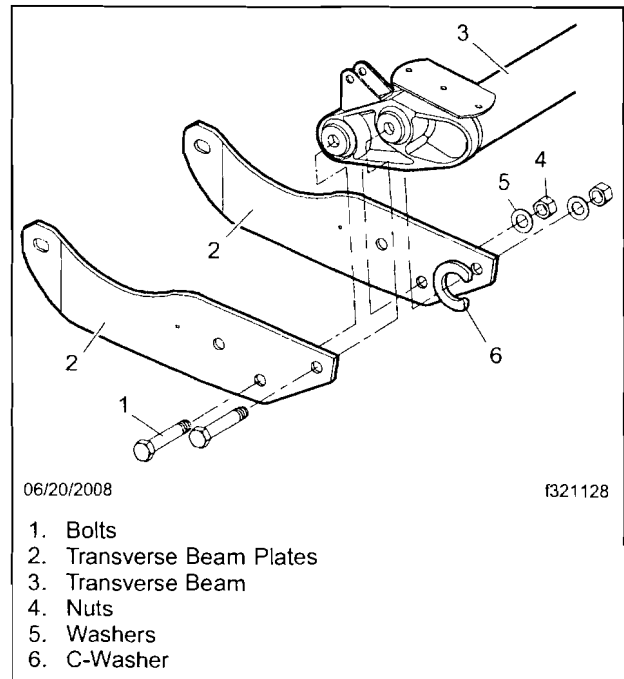

Fig. 6, Transverse Beam Replacing
8. Remove the transverse beam connection hardware on both sides. See Fig. 6.